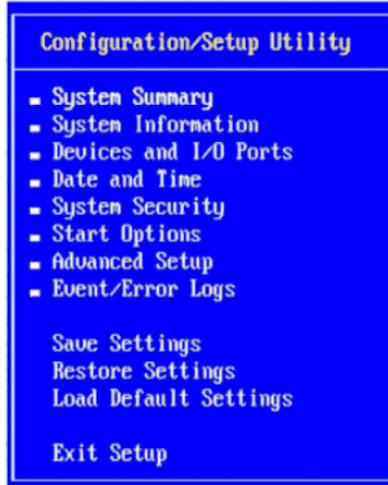

Figure 10-34 Selecting Start Options in Configuration/Setup Utility screen
3. Select **Start Options**, as shown in Figure 10-34.